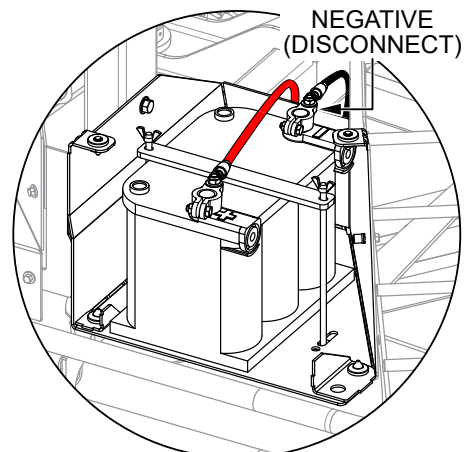

Figure 4. Disconnect Battery
3. Disconnect the negative (**BLACK**) battery cable from the **negative (-)** terminal on the battery. See Figure 4.